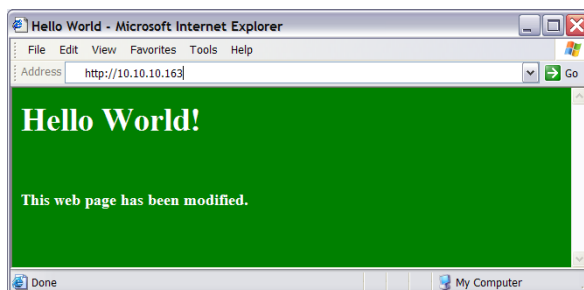

Figure 25. Embedded Web Server with Modified Content
6. The updated web page stored inside the MCU should be displayed on the screen as shown in Figure 25.